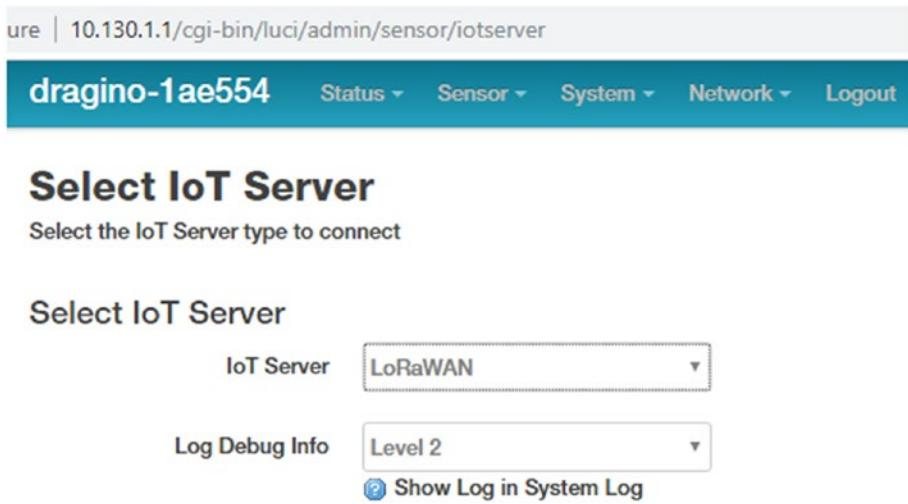

Figure 8-11. Selecting the IoT server
14. On the Select IoT Server page, under Select IoT Server, choose LoRaWAN from the IoT Server dropdown list (Figure 8-11).